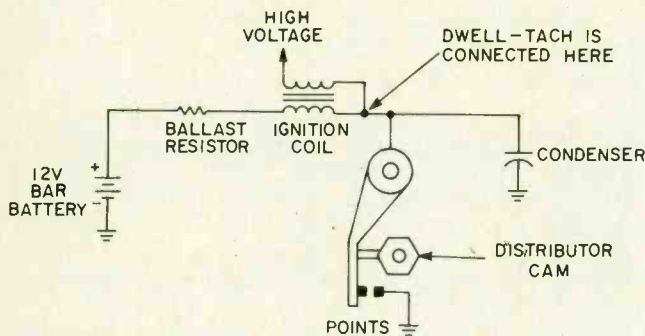

Fig. 1. A simplified schematic of an automotive ignition system using mechanical points (not electronic or "breakerless.")
The tachometer section of the dwell tach measures engine RPM by responding to the pulses which appear at the distributor side of the ignition coil (negative terminal). This is the point where the sensing lead of the instrument is connected. Referring to Fig. 1, a typical schematic diagram of a conventional (non-electronic) automotive ignition system, note that each time the points open, the collapsing magnetic field of
**The Circuit.** In order to best understand the operation of the dwell/tachometer circuit, it is necessary for the reader to be familiar with the voltage waveform appearing at the primary terminal of the ignition coil. This is shown in Fig. 1. The basic voltage waveform is a rectangular pulse with a considerable amount of ringing on the rising edge of the pulse. This ringing is caused by the sudden cut-off of current in the ignition coil, and results in the high voltage generation which fires
Fig. 1. A waveform diagram of the voltage across the ignition points illustrates exactly what happens during operation, and what it is that you're measuring when you use the instrument.